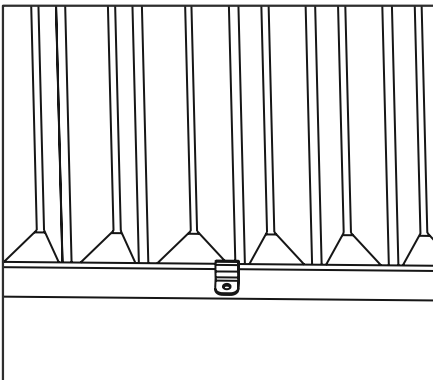
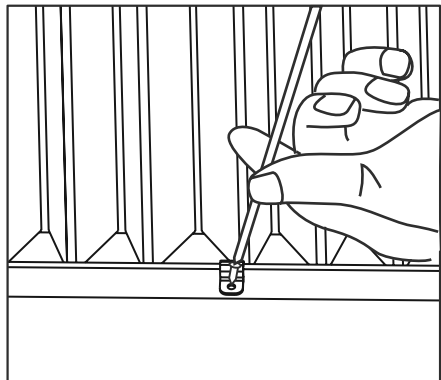

Fig.9
Fig.10
- Place the frame lock between the extended accordion panels and the window sill as shown in Fig.9. Screw a 3/4" (19mm) locking screw through the frame lock and into the window sill. (Fig.10)